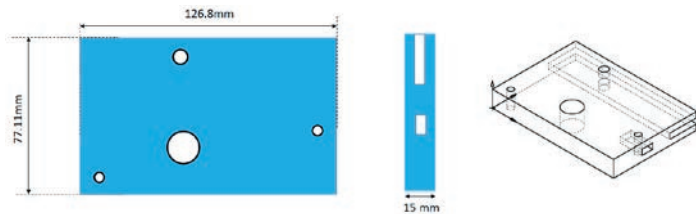

Figure 1. Schematic of design space with load introduction points indicated in white
- Design a load carrying structure which fits within the design space as shown in Figure 1. More information on the supports and loading pins will be given upon subscription. The structural design can be chosen freely within these dimensions.